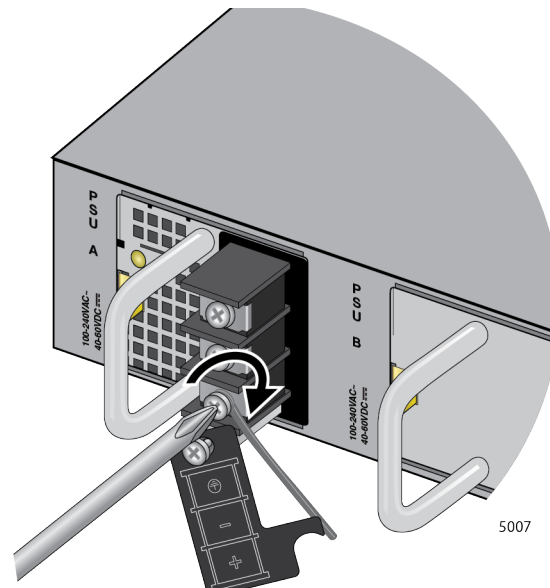

Figure 64. Wrapping the Grounding Wire and Tightening the Screw
5. Wind the grounding wire clockwise around the base of the grounding screw. Refer to Figure 64.